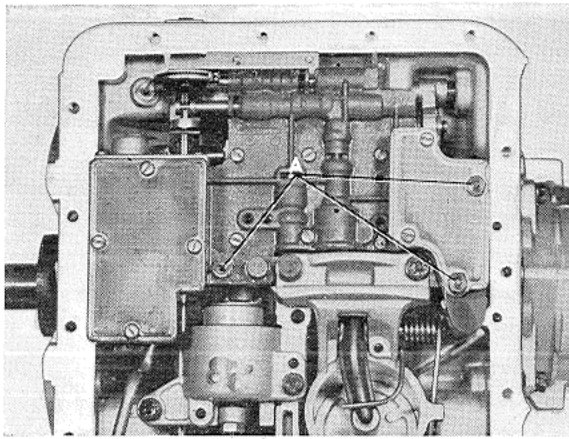

Fig. 39. Valve bodies assembly
4. Disconnect the downshift valve cable from the downshift valve cam. Unscrew the three screws which retain the valve bodies assembly to the gearbox housing, see Fig. 39. Lift the valve bodies assembly straight up so that it releases from the oil tubes at the front end.